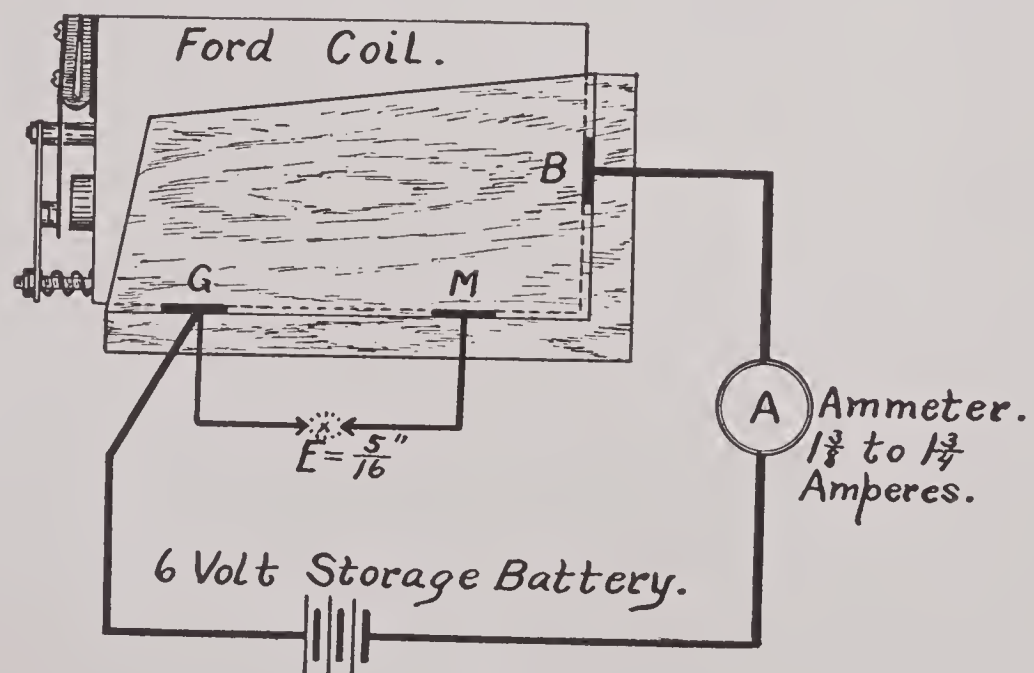

FIG. 273
Fig. 273 shows a test arrangement for testing a Ford coil to determine if the vibrator spring has the proper tension. If the coil draws more than $1\frac{1}{2}$ amperes the tension of spring is too strong. The tension of spring can be relieved by turning back on small screw (P) so as to slightly separate the ends of the horseshoe shaped support for the vibrator spring. If the coil draws less than $1\frac{1}{2}$ amperes the spring is too weak. Adjustment can be made by turning down on the small screw permitting the ends of the horseshoe shaped support to spring to-